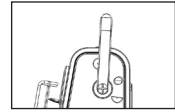

Fig. 1
1. After unpacking, place the handle in the vertical position. [Fig. 1].